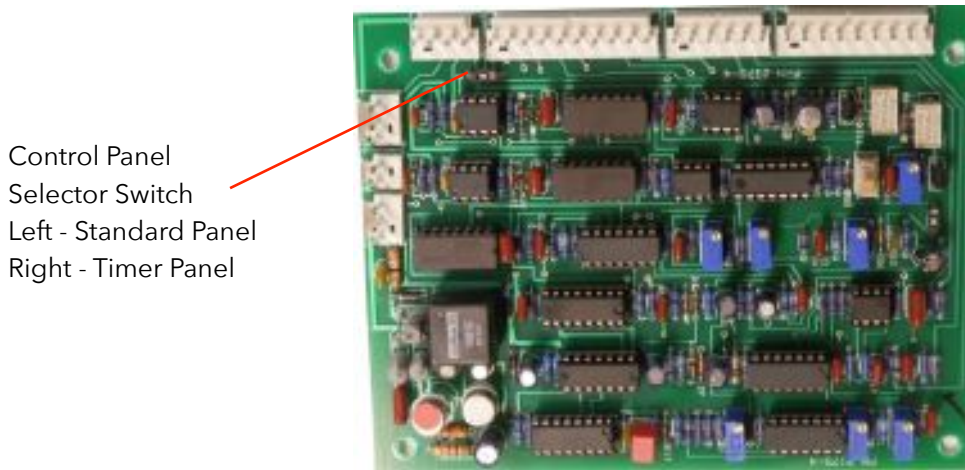

Fig. 6
3.2 The HS2500R2 and the HS2500R2C are the same system. The only difference is the front control panel that is used. To change from one control panel to the other there is a switch on the main control board that must be set for the panel being used. This switch is in the correct position for the panel in place when it is shipped. However, if the panel is changed the switch must also be changed or the controls will not operate properly. (See Fig. 6)